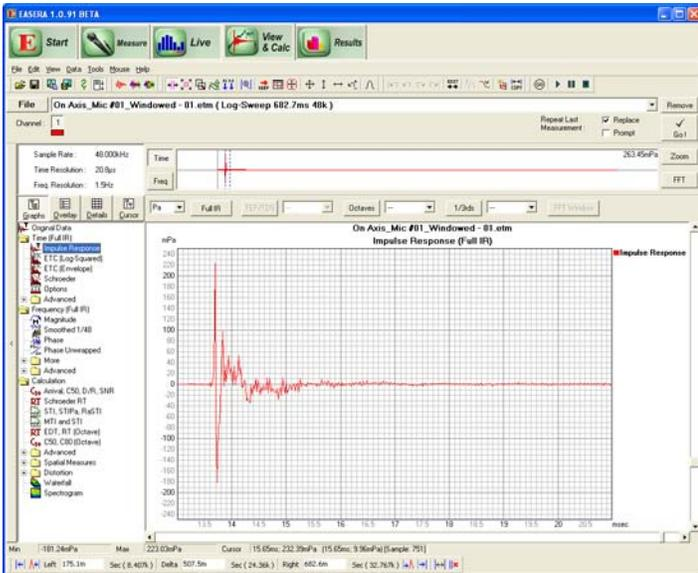
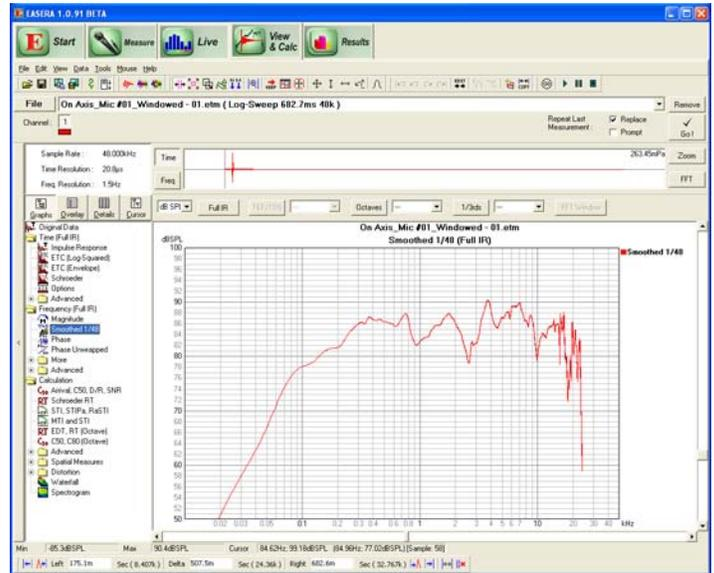

Figure 5 – Impulse response of a loudspeaker
Figure 6 – Frequency response
As soon as EASERA has completed a measurement the data will be displayed in the View & Calc tab. The measured impulse response (IR) of a loudspeaker system is shown in Figure 5. The same measurement is shown in Figure 6 as the magnitude (frequency) response. By simply selecting any display type in the left pane the calculations for that display are performed and appear almost instantaneously in the right pane. Multiple measurements may be overlaid. A set of polar measurements in one plane is shown in Figure 7. Harmonic distortion spectra are also easily displayed (Figure 8).